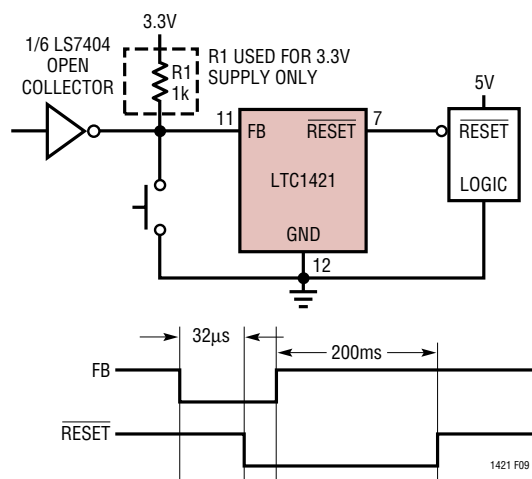

Figure 9. Generating a Soft Reset
A soft reset that doesn't cycle the supply voltage can be generated externally using Pin 11 (FB) as shown in Figure 9. For a 5V supply the FB pin is left floating to set the internal supply monitor trip voltage to 4.65V. However, if the FB pin is pulled to ground for more than 32 $\mu$ s via a push button or open-collector logic gate, the internal trip point will go to 5.88V and the RESET pin will pull low. RESET will remain low for 200ms after the FB pin is released. The RESET signal will also be pulled low when the voltage at the VOUTLO pin dips below 4.65V for more than 32 $\mu$ s. When using a 3.3V supply, a 1k resistor must be connected from the FB pin to VCCLO to set the internal trip point to 2.90V.